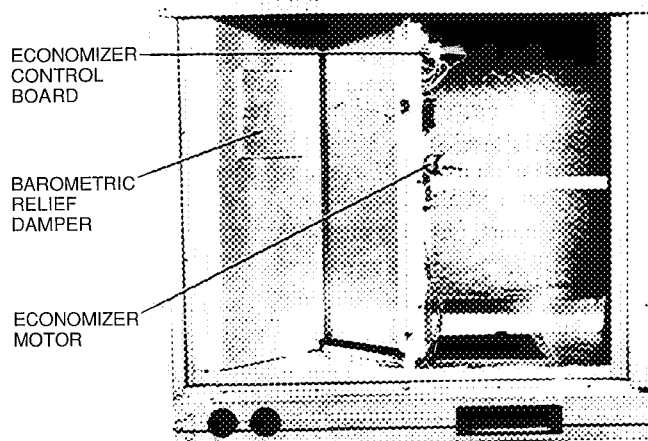

Fig. 20 – Horizontal Economizer Installation (90-Degree Rotation)
- b. Rotate economizer 90 degrees until economizer motor faces condenser section (see Fig. 20). If necessary, disassemble economizer to replace filter.